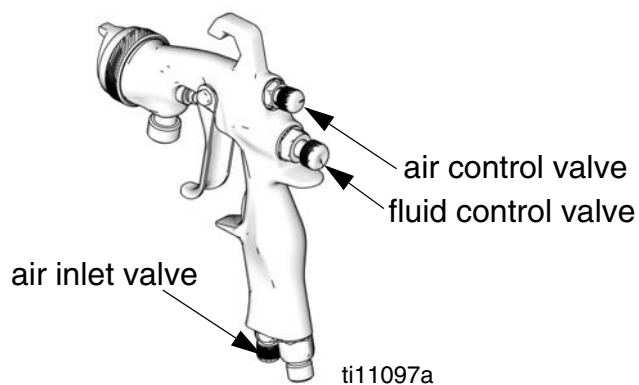

FIG. 3
2. To achieve full fan pattern, open the air control valve by turning the knob fully counterclockwise. See FIG. 3.
3. To create a round pattern, turn the pattern air off by turning the air control valve fully clockwise. See FIG. 3.